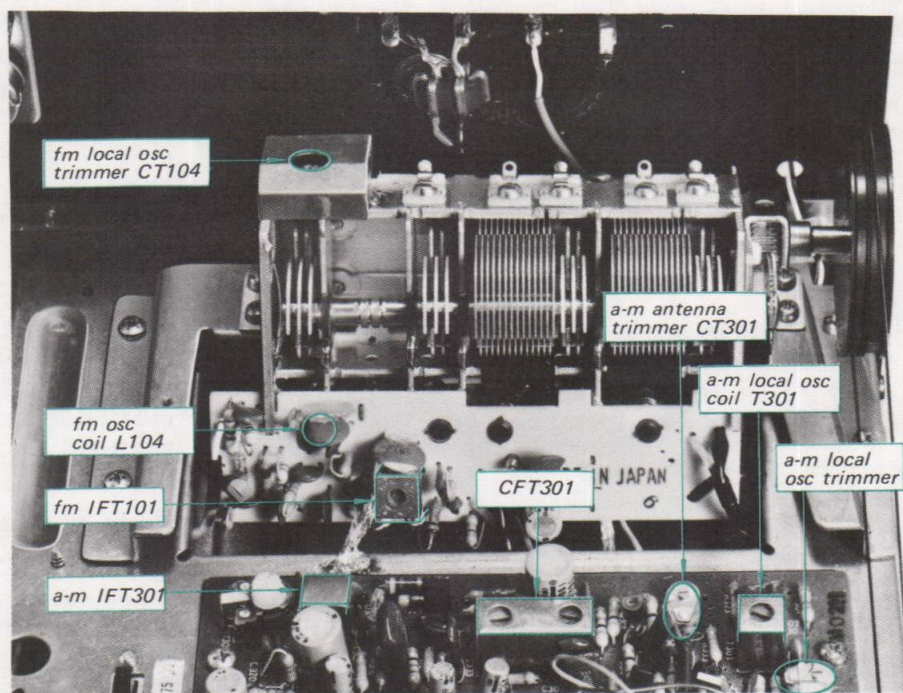

Fig. 3-5. Adjusting parts location
3. Turn the core of transformer IFT101 (See Fig. 3-5) with the alignment tool to obtain maximum output.
Note: The i-f transformers (CFT301, see Fig. 3-5 and IFT301) in the a-m i-f amplifier circuit are adjusted at the factory, so very little adjustment is necessary in the field even if replacing any of these i-f transformers.